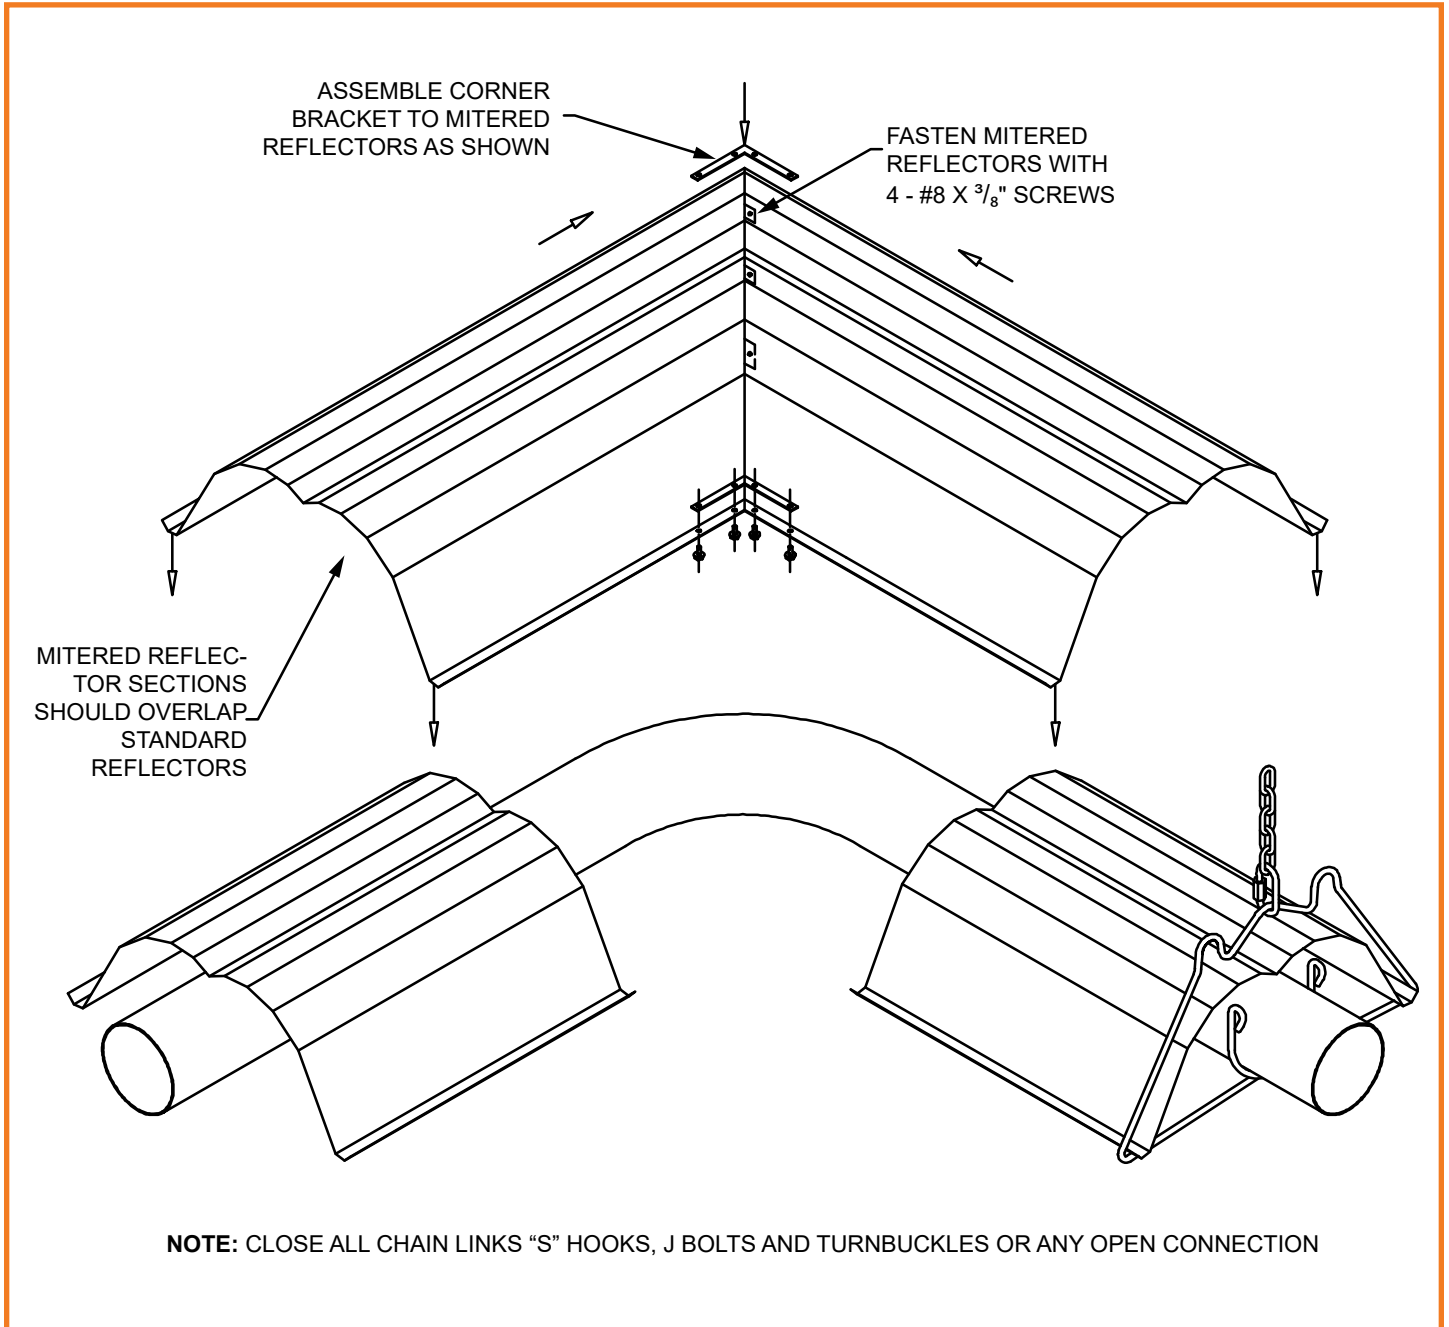

Figure 20: Mitered Reflector Installation
Note: Elbows or U-bends are typically installed without reflectors. To reduce the above clearance to combustibles distance use miter reflectors (see Figure 20) and refer to *Clearance to Combustibles* information.
- If used, install the Mitered Reflector as shown below in Figure 20.